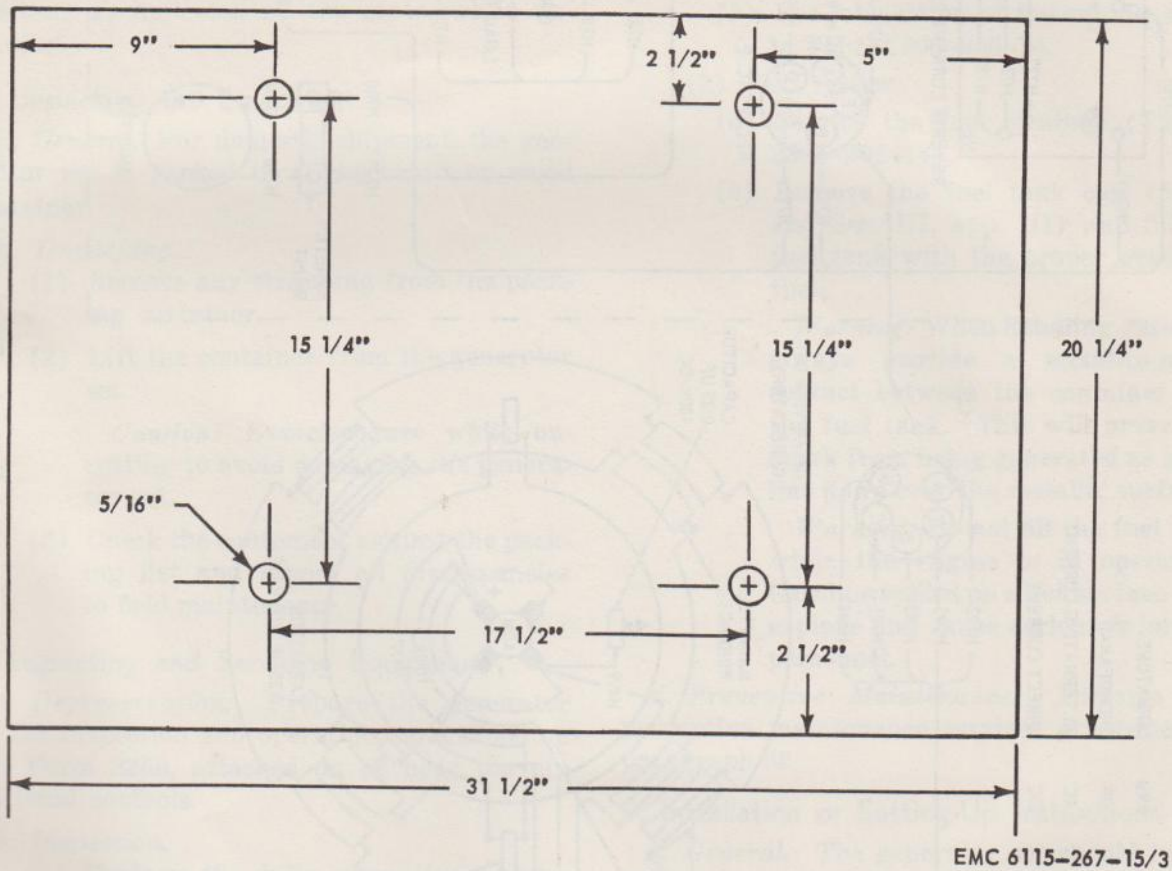

Figure 3. Base plan.
(7) *Base plan.* See figure 3.
b. Installation. The generator set is shipped fully assembled for operation. When preparing for a permanent installation, be sure the base is solid and strong enough to support the weight of the unit. Refer to figure 3 for dimensions of the base.